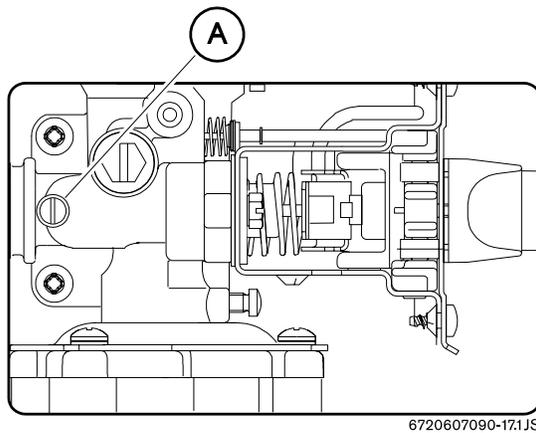

Fig. 12 - Inlet pressure test point
- 12.2 Loosen screw A and connect a pressure gauge to the test point. (fig. 12).
Remove the outer Case, turn off the Gas Isolation Valve. Remove the pressure gauge and tighten screw A. (fig. 12).